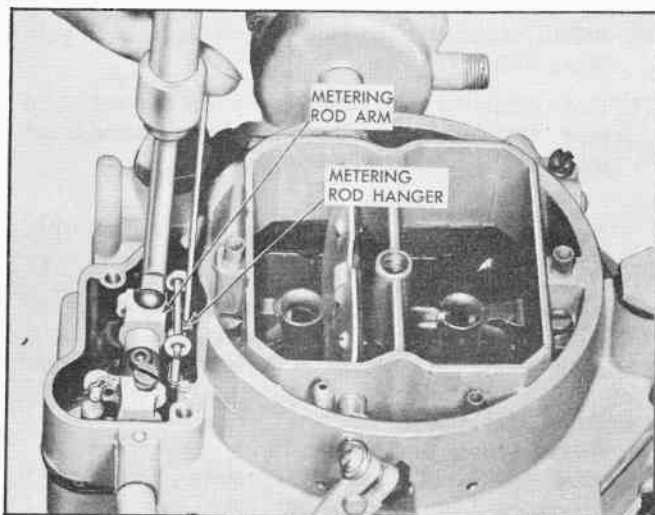

Fig. 27 Metering Rod Arm Adjustment
2. Press down on vacuumer piston link until metering rods bottom in carburetor body (Fig. 27)
3. Holding rods in this downward position and with throttle valves seated, revolve metering rod arm until finger on arm contacts lip of vacuumer link. Hold in place and carefully tighten clamp screw (Fig. 27).